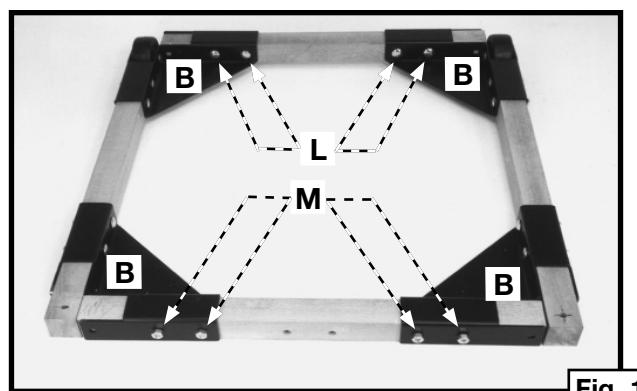

Fig. 10
11. Position the boards inside the corner brackets (B) Fig. 10. Align the holes in the boards with the four inside holes in each corner bracket (B) Fig. 10. Fasten the boards to the brackets with sixteen 2" carriage bolts (L) and hex nuts (M).
NOTE: Insert the carriage bolts (L) Fig. 10 from the inside of the brackets (B) so that the squares of the carriage bolts fit into the square holes in the bracket (B).